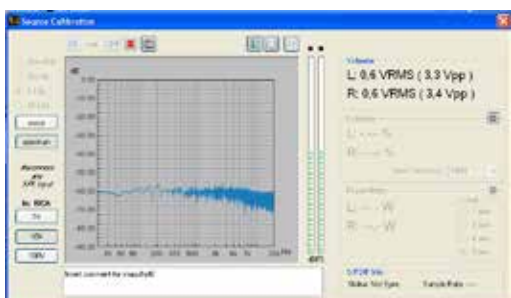
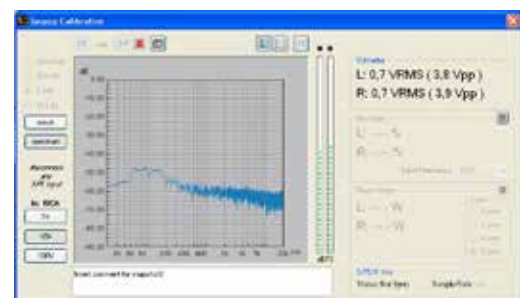

Fig 1
Fig. 2
- This will display the signal's FFT, non-equalized fig. 1, or equalized fig. 2.